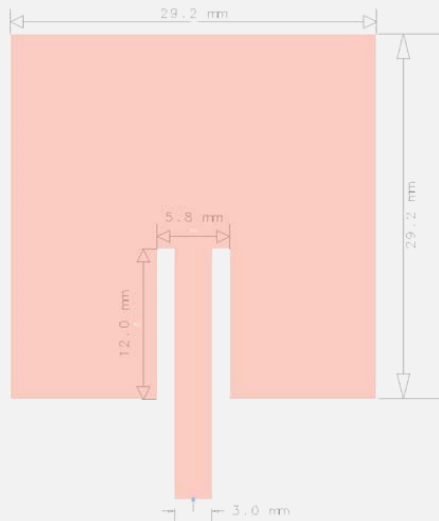

Figure 26. Dimensions of Patch Antenna
3. Use **Insert > Polygon** and **Insert > Coordinate Entry** commands to enter (x,y) coordinates to enter the required points to construct the Patch Antenna geometry according to the calculations. The patch antenna is shown in Figure 26.